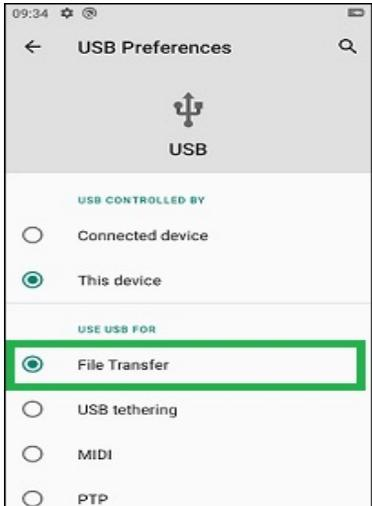

Figure 12 - USB connection settings
1. Click on "File Transfer," Figure 12;